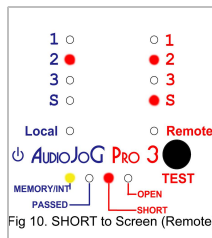

Fig 10. SHORT to Screen (Remote)
- c) A short to SCREEN, this may be indicated by one, or both the screen LED's being ON in conjunction with another pair of LED's (Fig10.).